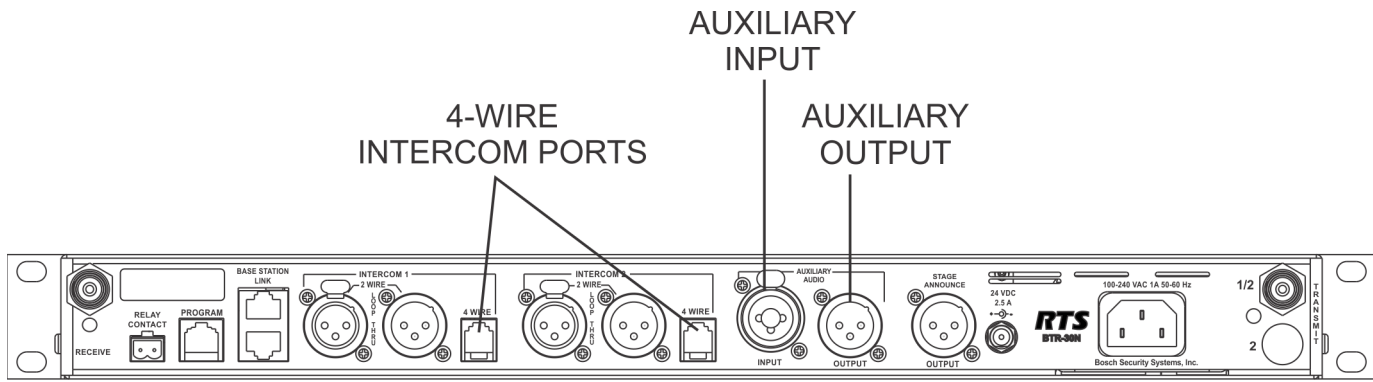
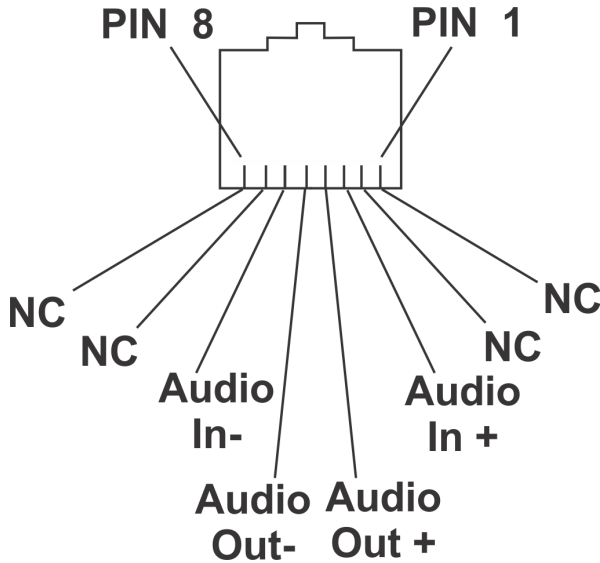

FIGURE 22. BTR-30N Rear View
FIGURE 23. Pinout of the 4-Wire Jack
The BTR-30N can connect to two (2) 4-wire audio intercom systems. These 8-pin modular jacks (RJ-45) are designated 4-wire under intercom 1 and 2 titles on the rear panel. (See Figure 22). The jack's pinout is shown in Figure 23.